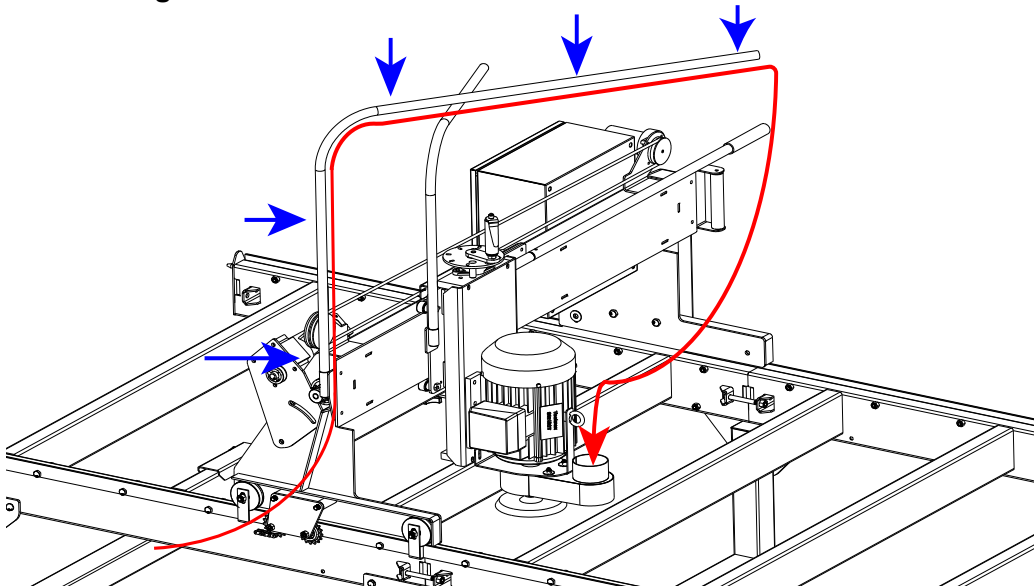

FIG. 4-4
1. Secure the Vacuum Hose to the Vacuum Hose Arm using appropriately sized hose clamps or zip ties. (Minimum 5 locations as shown in Figure 4-4).
See Figure 4-4